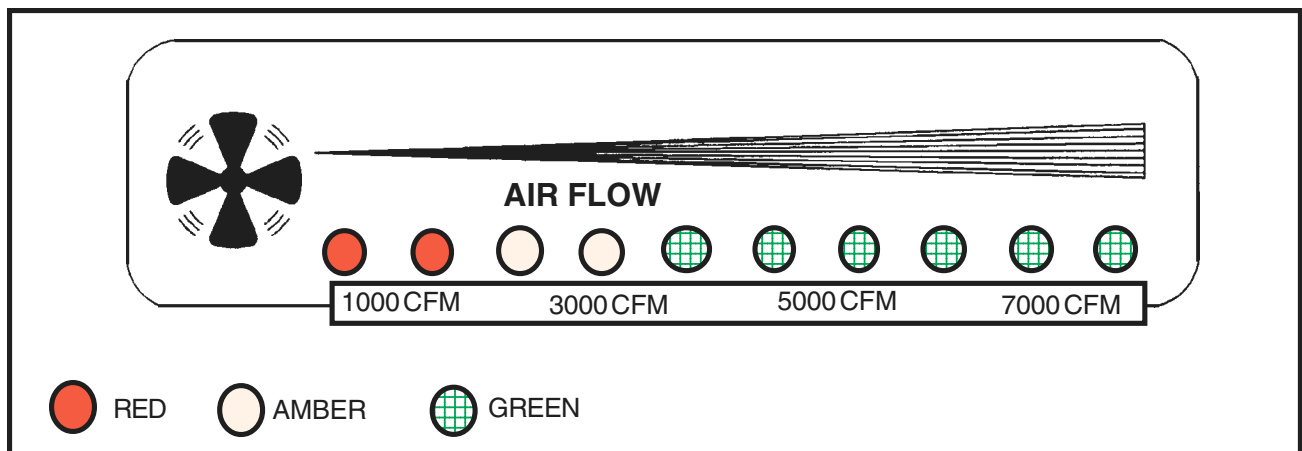

Figure 3
1.2.1 Airflow (Figure 3)
In Sections 1.2.1, 1.2.2, 1.2.3 and Figures 3 and 4 are descriptions and pictures of two of the windows located on the cover of the Checker board enclosure. Packed with the enclosure are two stickers (1/4" X 4"). These stickers may be used to indicate airflow in cubic feet per minute. These measurements can be determined during start-up and calibration (Section 4.0 Start Up / Calibration and Adjusting).
Write in the appropriate airflow as measured in the system (see Figure 3). Airflows shown on Figure 3 are shown as an example only.